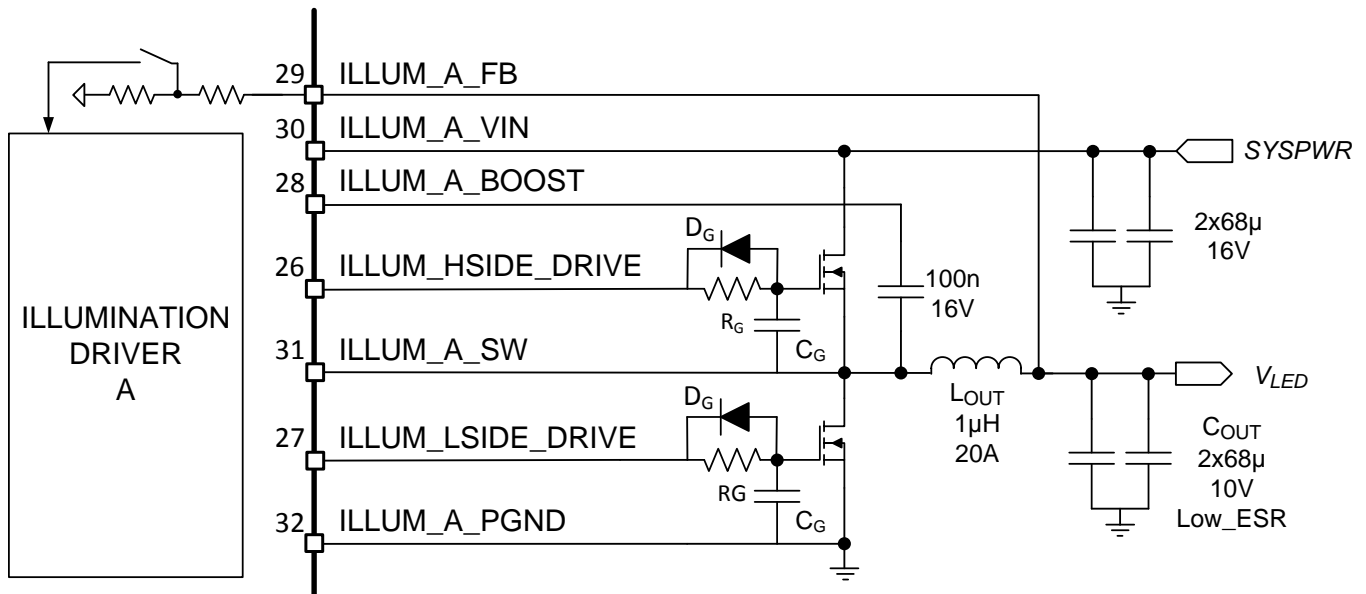

Figure 6. Typical Illumination Driver Configuration
The illumination driver of the DLPA3005 is a buck controller for driving two external low-ohmic N-channel FETs (Figure 6). The theory of operation of a buck converter is explained in the application note *Understanding Buck Power Stages in Switchmode Power Supplies* (SLVA057). For proper operation, selection of the external components is very important, especially the inductor L_{OUT} and the output capacitor C_{OUT} . For best efficiency and ripple performance, an inductor and capacitor should be chosen with low equivalent series resistance (ESR).
Below (Figure 12) an overview is given of the efficiency of the illumination driver plus power FETs for an input voltage of 12 V. Used external components (Figure 6): High-side FET (L) CDS17506Q5A, Low-side FET (M) CDS17501Q5A, $L_{OUT} = 2 \times 2.2 \mu H$ parallel, $C_{OUT} = 88 \mu F$. The efficiency is shown for several output voltage levels (V_{LED}) versus output current.